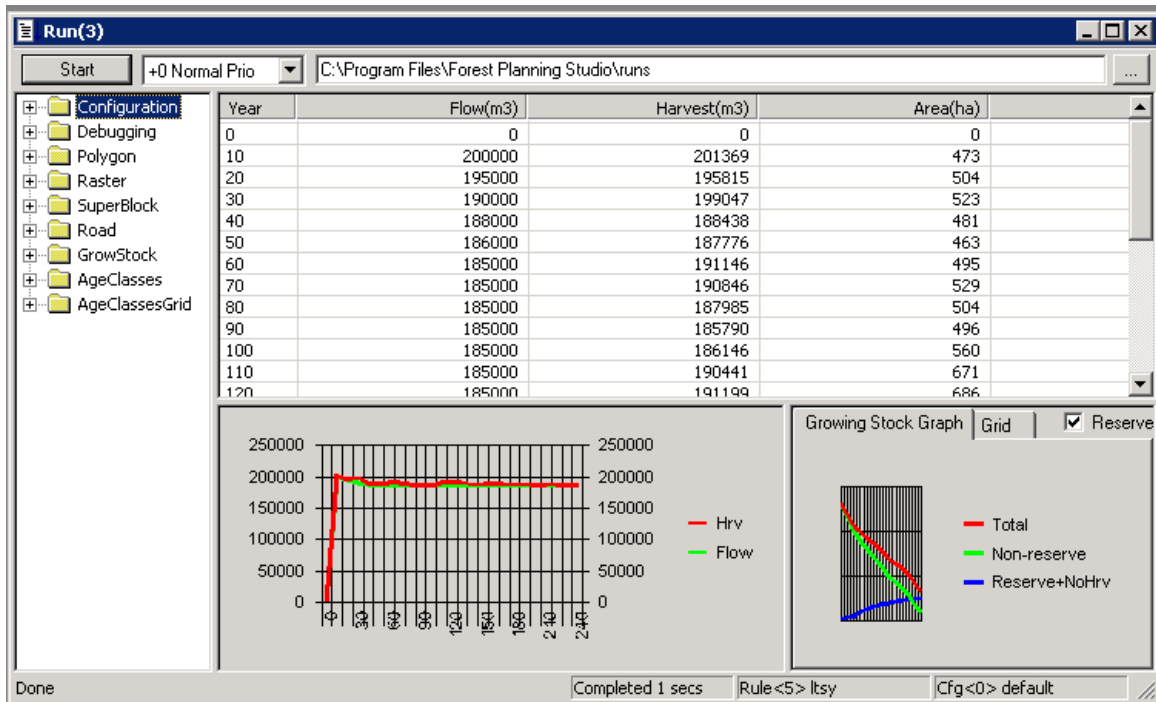

Figure 18: Results from running a Maximum harvest scenario in FPS.
2.5.5 Run the model. The results should be similar to those in Figure 18.
How does this result relate to the growing stock graph from the previous simulation (Figure 18).